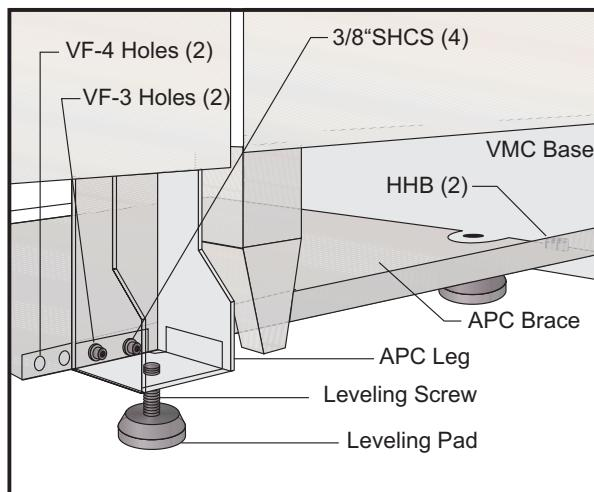

Figure 3.6 Installing the APC brace shown).
10. Attach the APC brace to the VMC and the APC with six screws (four 3/8" screws in the APC legs and two 1" screws in the VMC base), but DO NOT TIGHTEN (see Figure 3.6). The VF-3 uses the two holes in the brace that are closest to the VMC, while the VF-4 uses the two holes farthest from the VMC.
15. Tighten down the four 3/8 SHCS and two hex-head bolts (see Figure 3.6) on the APC brace **evenly**, so the APC is not pulled out of alignment. Recheck the level and all alignments.